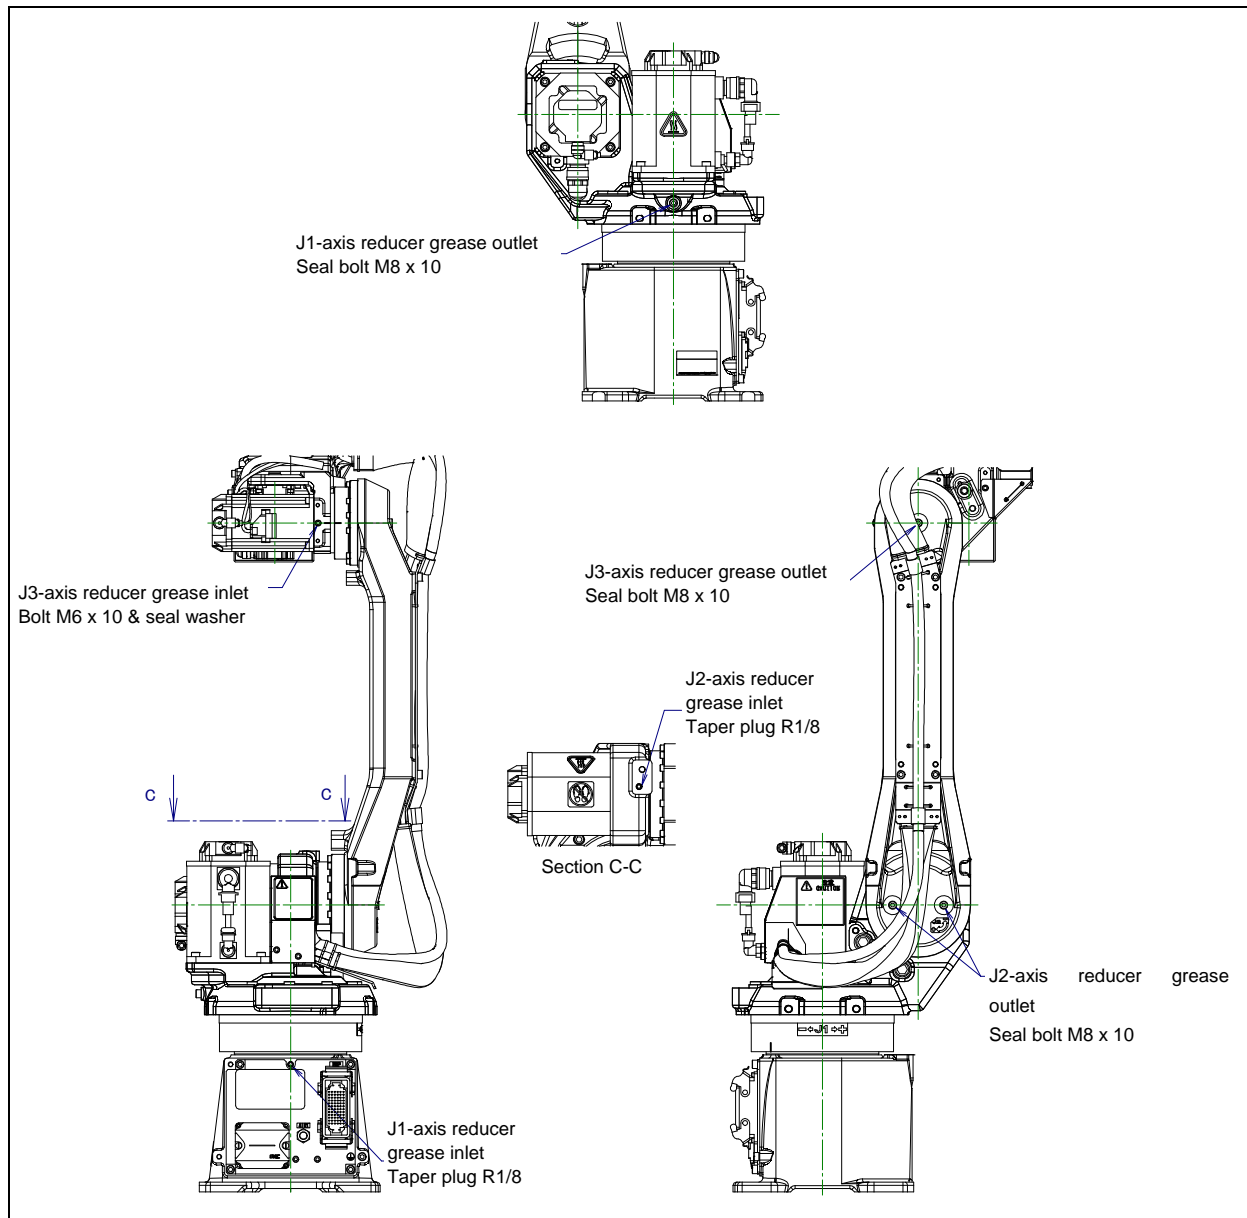

Fig. 8.3.3.1 Greasing points of J1 to J3-axis reducer
- 3 Remove the seal bolt or taper plug from grease outlet. (Fig. 8.3.3.1)